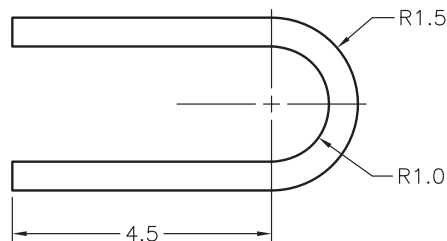

Fig. 10-9
- The drawing in Fig. 10-9 represents a variation of a magnet for a new motor design. Draw the magnet. Select the appropriate drawing unit of measurement, drawing area, and object snap modes. Do not include dimensions, but save the drawing as **magnet.dwg**.